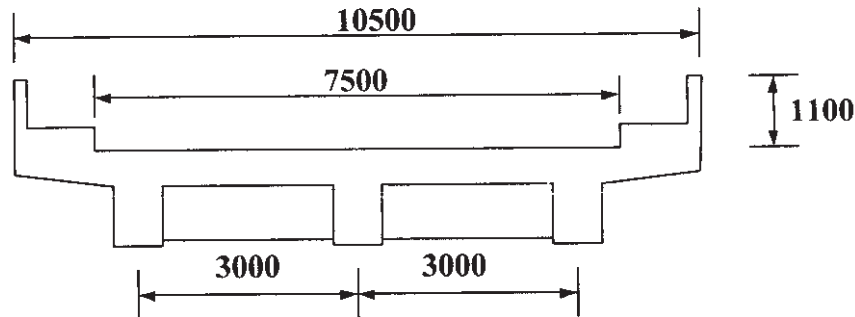

Fig. 3
- Q3)** Design the R.C. deck slab for the R.C. T-Beam deck slab bridge shown in Fig. 3 with the following details. [25]